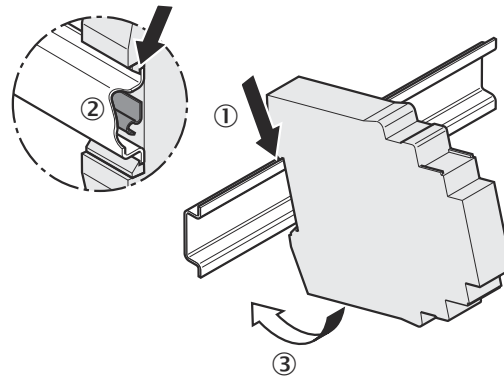

Figure 12: Mounting the module on the DIN mounting rail
- Mounting in a vertical orientation (on a horizontal mounting rail). figure 12